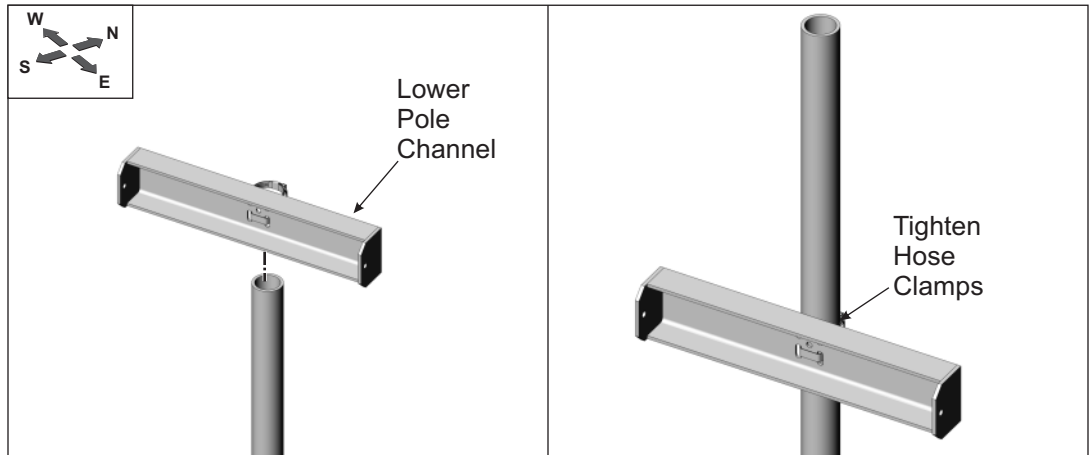

Figure 1-3: Installing Lower Pole Channel
- C. Rotate the Pole Channel so it faces south. (See Figure 1-3)